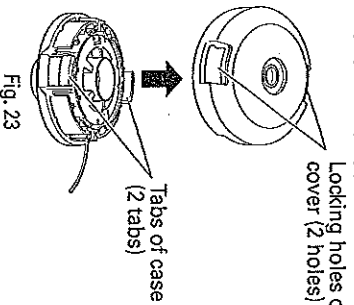

Fig. 23
- (7) Press and snap the tabs of the case in the locking holes of the cover. (Fig. 23)